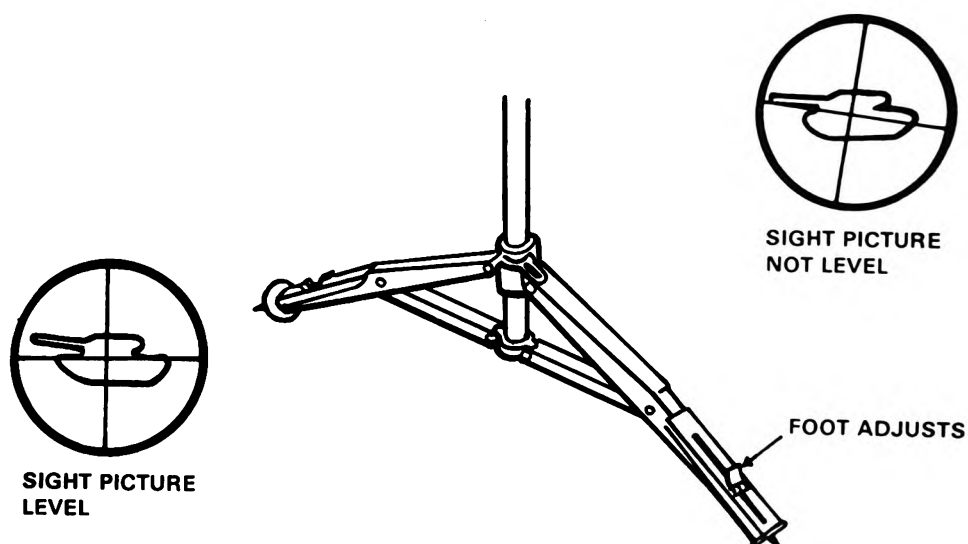

Figure 10.
10. Adjust the bipod friction lock and the foot adjusts to obtain a level sight picture (figure 10).